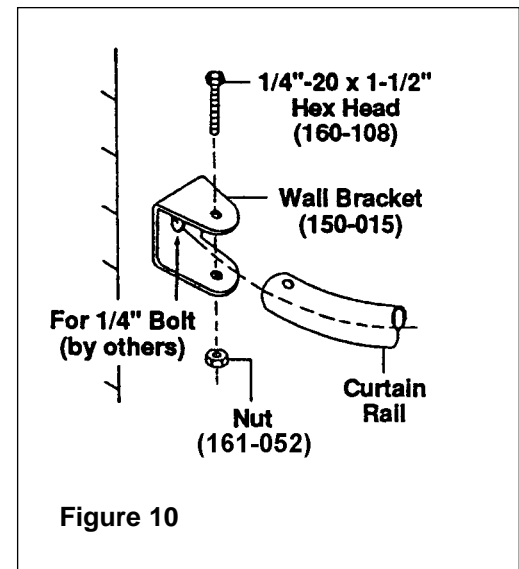

Figure 10
3. Secure brackets to wall and install curtain rails as shown in Figure 10.